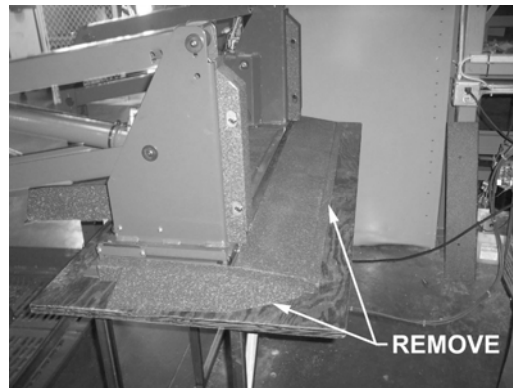

FIGURE 1
1. Refer to **FIGURE 1**. Deploy platform. Remove short side ramp and longer rear ramp from around the baseplate to gain access to lower tower components.